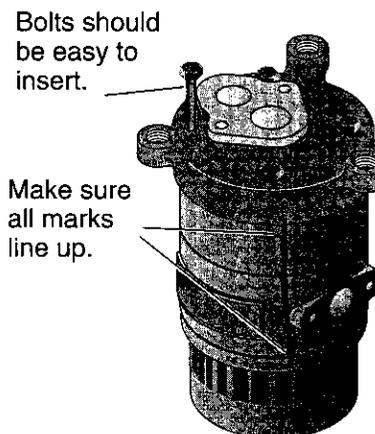

Figure 29
- Insert the four base capscrews and tighten evenly (see Figure 29). These should be easy to install if everything is correctly aligned. If not, don't force them; go back over your work and find and correct the misalignment.